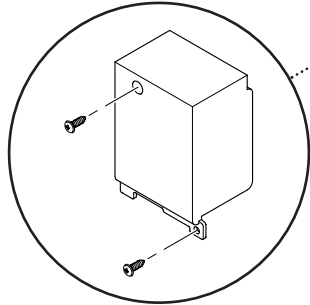

Fig. 103
3. Remove the cover from the front of the controls box (Fig. 103).